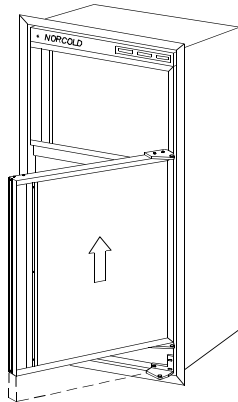

Figure 14
4. Remove the lower door by opening it slightly and pulling the top of the door away from the refrigerator. Allow enough room so the door can be lifted up and off of the bottom hinge pin shoulder (See Figure 14). Be sure to save the hinge plates along with the spacer used in the middle hinge bracket, for reassembly later. (See Figures 19A, 19B, and 19C)